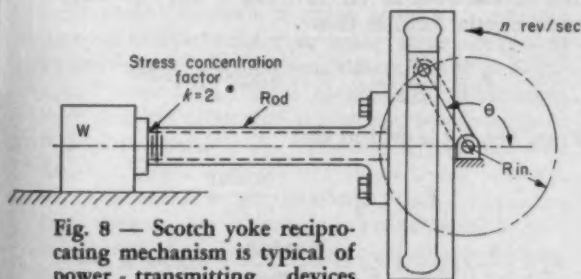

Fig. 8 — Scotch yoke reciprocating mechanism is typical of power-transmitting devices subject to alternating load
**Optimum Speed of Mechanisms:** A large class of mechanisms involves linkages subjected to power transmission forces plus periodic inertia forces due to reciprocating or oscillating motion. A typical example is the Scotch yoke shown in Fig. 8. Here it is assumed that the power force is constant over the first half of each cycle and zero over the remaining half. If an adequate flywheel is used the speed will be very nearly constant throughout a cycle. The loading on the horizontal rod will be investigated. The shapes of the power force and inertia force curves for this member are indicated in Fig. 9. The speed is  $n = \omega/2\pi$  revolutions per second and during each revolution the force acts through  $2R/12$  feet. The power force through each half cycle is then
**EXAMPLE 2:** For a mechanism such as in Fig. 8 with  $W = 30$  lb,  $R = 7$  inches,  $P = 20$  hp, material steel having  $s_y = 50,000$  psi and  $s_e = 30,000$  psi, and stress-concentration factor at thread  $k = 2$ , the value of  $\omega$  from Equation 13 is 32.8 rad per sec or 314 rpm. If the rod is threaded  $\frac{3}{4}$ —10 NC the cross-sectional area at the thread roots is 0.3 sq in. and the stress at optimum speed is, from Equation 12, 19,500 psi. How stress varies with speed is shown in Fig. 10.
**EXAMPLE 3:** The crank in Fig. 11 has a stroke of 14 inches and is overhung 4 inches from the center of the bearing. Forming part of the mechanism in Fig. 8, it is loaded as shown in Fig. 9, which represents the horizontal force acting on the crankpin. The shapes of the corresponding bending moment
The stress-speed curve for the rod in the same mechanism, Fig. 8, is plotted from Fig. 10. However, this is a tensile stress whereas the stresses for elements A, B, C and D are shear. On the assumption that the shear yield strength is half the tensile yield, the rod stress has been replotted at half the actual value for comparison. The optimum speed when both members (rod and shaft) are considered is at the intersection of the curves for the rod and for the crank element of maximum stress, at  $\omega = 48$  rad per sec, approximately.